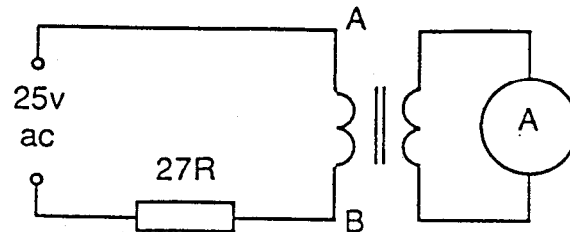

Fig.5
- Place the CT into its locating holes in the bottom left-hand corner of the panel and connect as shown in fig 5